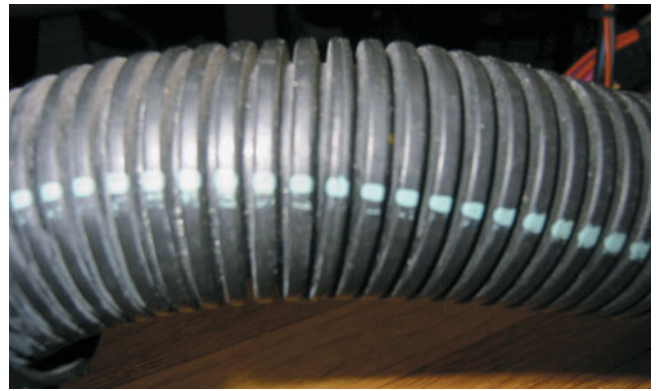

FIGURE 44-25 Conduit that has a paint strip is constructed of plastic that can withstand high underhood temperatures.
- **Black conduit with a green or blue stripe.** This conduit is designed for high temperatures and is used under the hood and near hot engine parts. Do not replace high-temperature conduit with low-temperature conduit that does not have a stripe when performing wire repairs. ● **SEE FIGURE 44-25**.